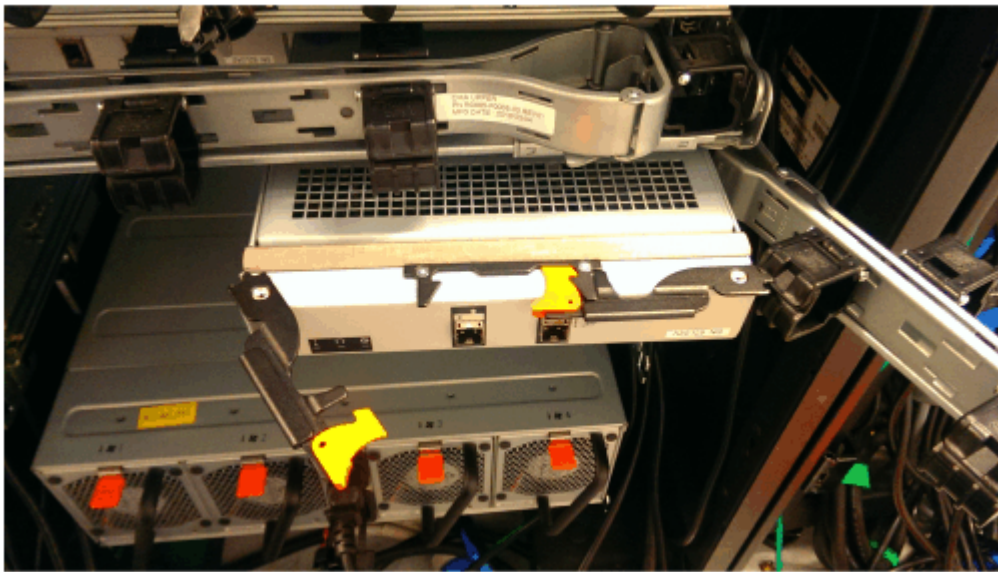

Figure 41. Install the expansion canister
1. Disconnect the elbow of the lower cable management arm to swing it out of the way, as shown in Figure 41 on page 49.
4. When the expansion canister is fully inserted, rotate each handle inward to lock it into position, as shown in Figure 41 on page 49.